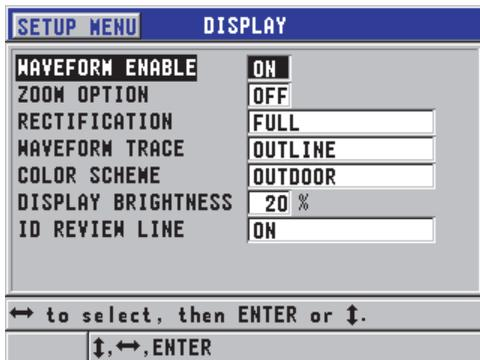

Figure 4-4 The DISPLAY screen
2. In the **DISPLAY** screen (see Figure 4-4 on page 44), select the desired parameter and value for the following parameters:
- In the **DISPLAY** screen (see Figure 4-4 on page 44), set the **COLOR SCHEME** to **INDOOR** or **OUTDOOR**.
2. In the **DISPLAY** screen (see Figure 4-4 on page 44), set the **DISPLAY BRIGHTNESS** to the desired percentage level.